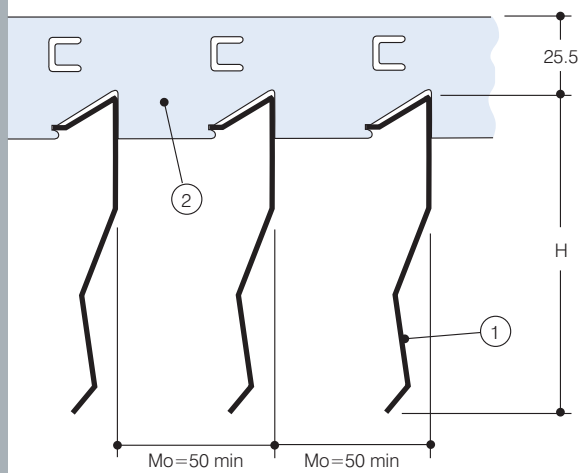
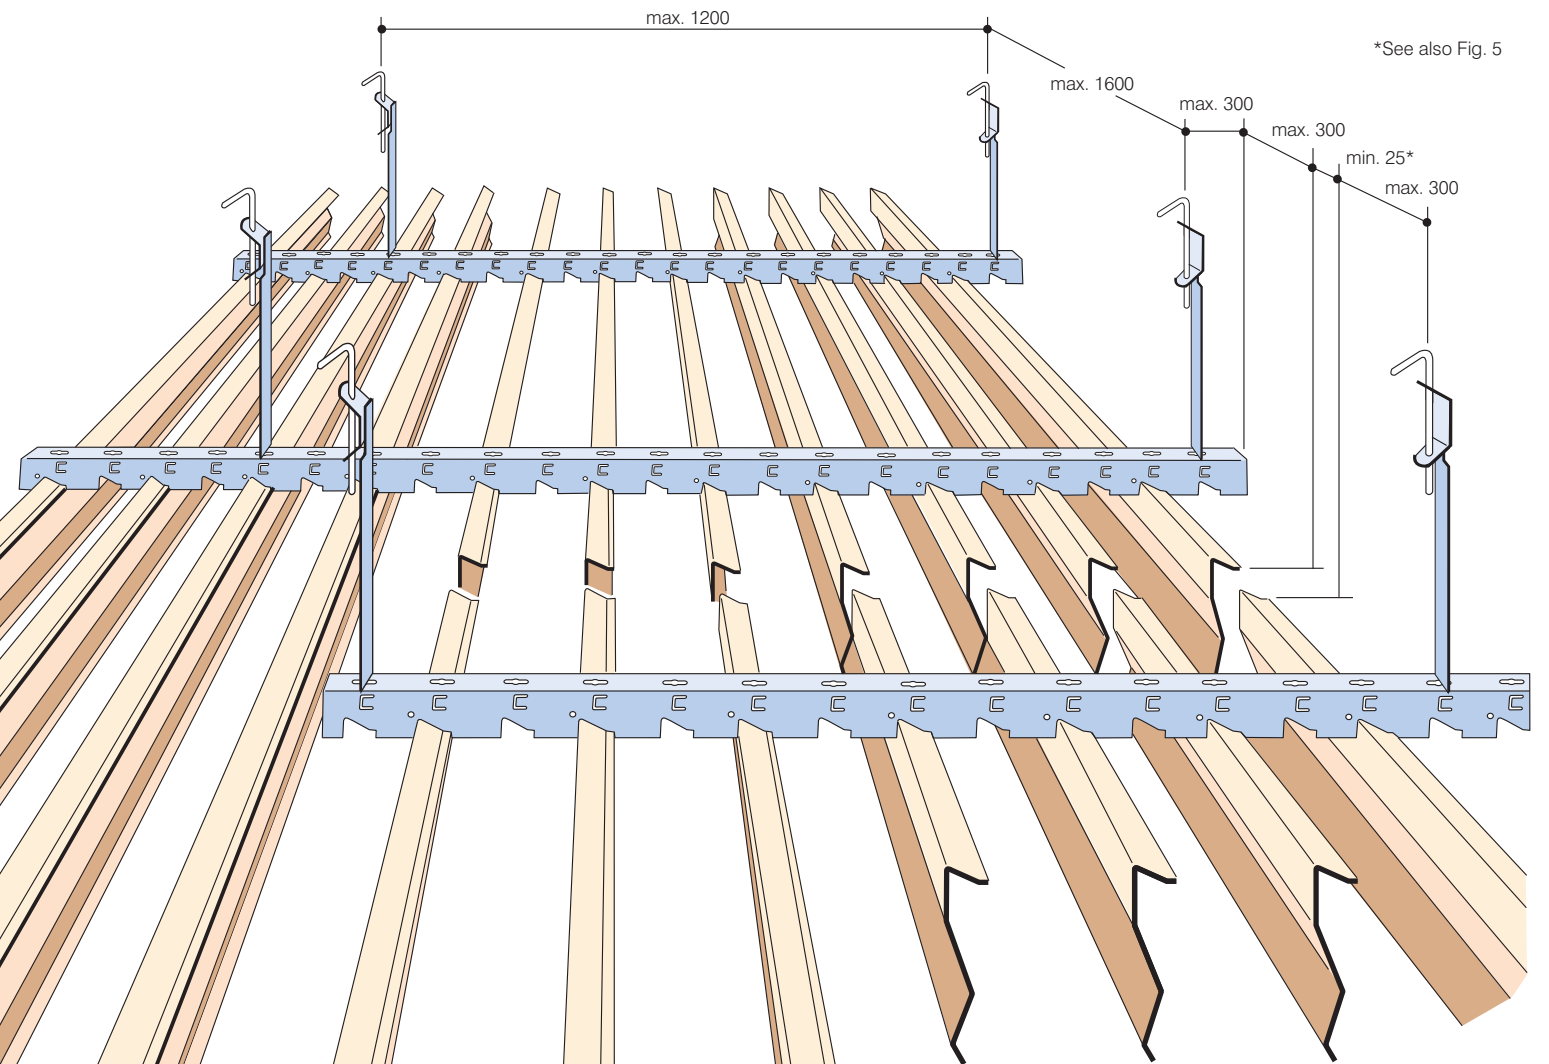
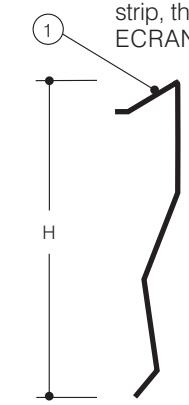

Fig. 1 ECRANLUX profile in cross section
Fig. 3 ECRANLUX ceiling assembly with span data
Fig. 6 ECRANLUX profile
Suspended from the structural soffit by adjustable hangers (3A) (Fig. 3) or (3B) (see rear page), Omega carriers (2) (Figs. 1, 2 & 3) contain prepunched cutouts at 50mm centres in both of their splayed legs.
The ends of ECRANLUX profiles are overlapped as shown in Figs. 3 & 4 using a staggered line configuration, or are 'gapped in line' as seen in Figs. 3 & 5. Similar gaps are created when the ECRANLUX profiles are terminated a consistent distance from walls perpendicular to their linear axis. Because of the free floating nature of ECRANLUX ceiling assemblies, adequate bracing of their suspension is necessary to prevent disturbance by maintenance personnel, or other parties, after buildings are occupied.
The ceilings are especially effective in airport concourses, exhibition halls, shopping malls and corridors when the screen's linear axis is disposed contrary to the predominant directional flow of pedestrian traffic. Manufactured from plain (non perforated) light gauge aluminium or mild steel strip, the 'humpbacked' profiles (1) (Fig. 6) in the ECRANLUX range are top hung from their suspension system (Figs. 1 & 3) at centres appropriate to the scale and height of the building space, which will determine the observer's viewing angle and the consequent screening effect.
Similar considerations shall be given to the selection of an appropriate profile height (H) (Fig. 6), of which the ECRANLUX range provides a choice of three: 100, 150 and 200mm.